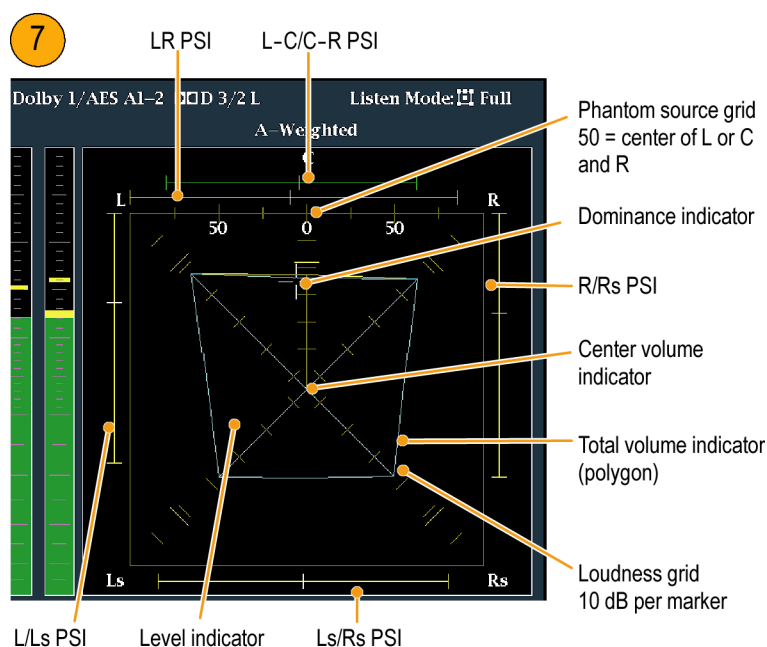

Figure 59: Surround sound indicators
7. Use the surround display to monitor relative loudness of the individual elements rendered in a surround-sound listening environment. Check the surround sound display for performance parameters and indicators. (See Figure 59.)